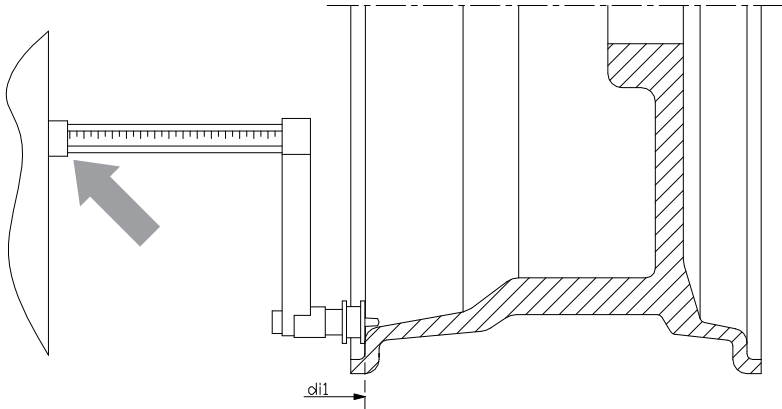

Figure F3.4 - Manual Acquisition of wheel distance in the ALS1 Programme Type
2. If the selected programme type is ALS1, extract the distance sensor and place it on the wheel as shown in Figure F3.4, otherwise proceed with step 4.
3. If the selected programme type is ALS2, extract the distance sensor and place it on the plane chosen for the internal weight as shown in Figure F3.4;